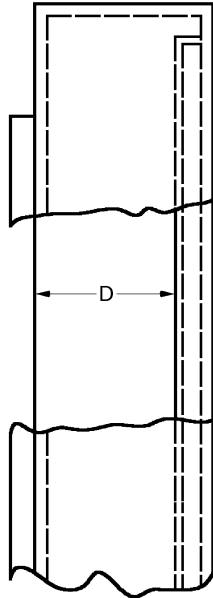
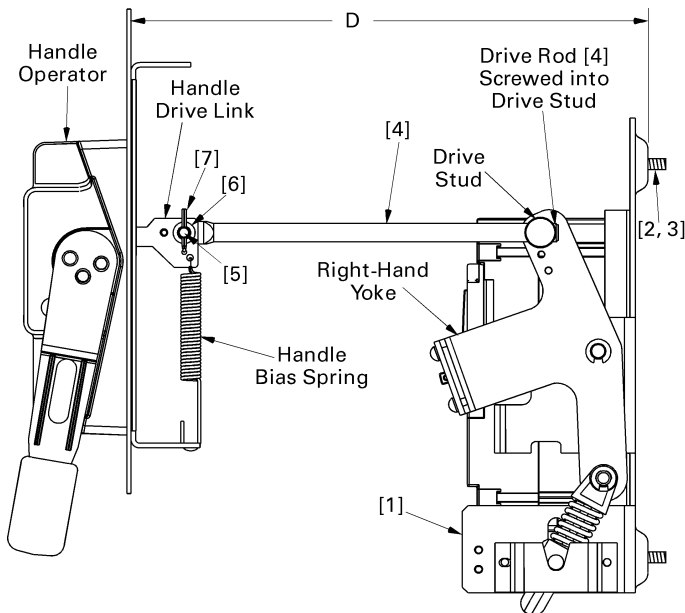

Figure 5. Side view of enclosure, showing dimension D.
Figure 6. Installing the drive rod.
6. As shown in Figure 5 and Figure 6, measure the dimension D, which is the distance from the handle-mounting surface to the operating mechanism mounting surface. Cut the drive rod [4] overall length 2 1/2" shorter than the D dimension. The minimum D distance is 6.5" (165 mm).
7. Screw the drive rod [4] into the drive stud on the operating mechanism until it is flush with the opposite side of the stud (approximately 10 full turns), as illustrated in Figure 6.
9. Slide the drive pin [5] through the holes in the handle drive link and the end of the drive rod [4]. Place a flat washer [6] over the end of the pin, then slide the cotter pin [7] through the hole in the drive pin [5], as illustrated in Figure 6. Do not bend the cotter pin at this time, since slight movement of the handle may be necessary to align the pin and hole.
9. Attach the handle bias spring, illustrated in Figure 6, included with the STDA handle mechanism kit.
1. Cut the flange stiffener rod [12] 3¹/₄" shorter than dimension D shown in Figure 5 and Figure 6.